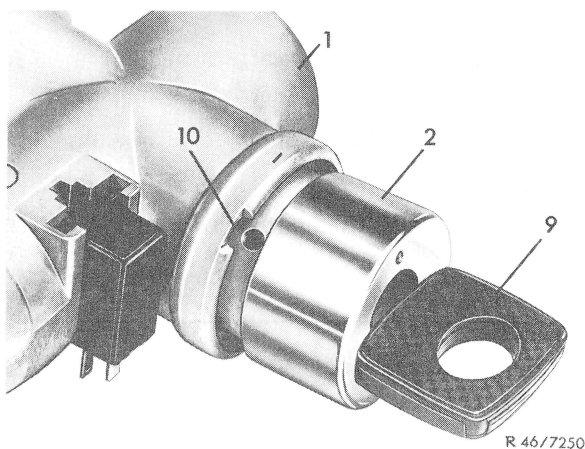

Fig. 4
- 7 Place cover sleeve of steering lock, insert key and turn to position „1“. Push cover sleeve completely down (Fig. 4).